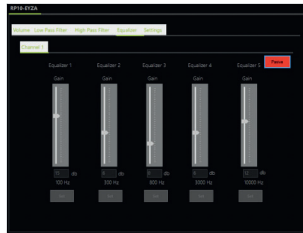

Figure 16 Passive Condition
5. **Active:** This button can control each output separately. Passive channel will work as flat. See Figure 16